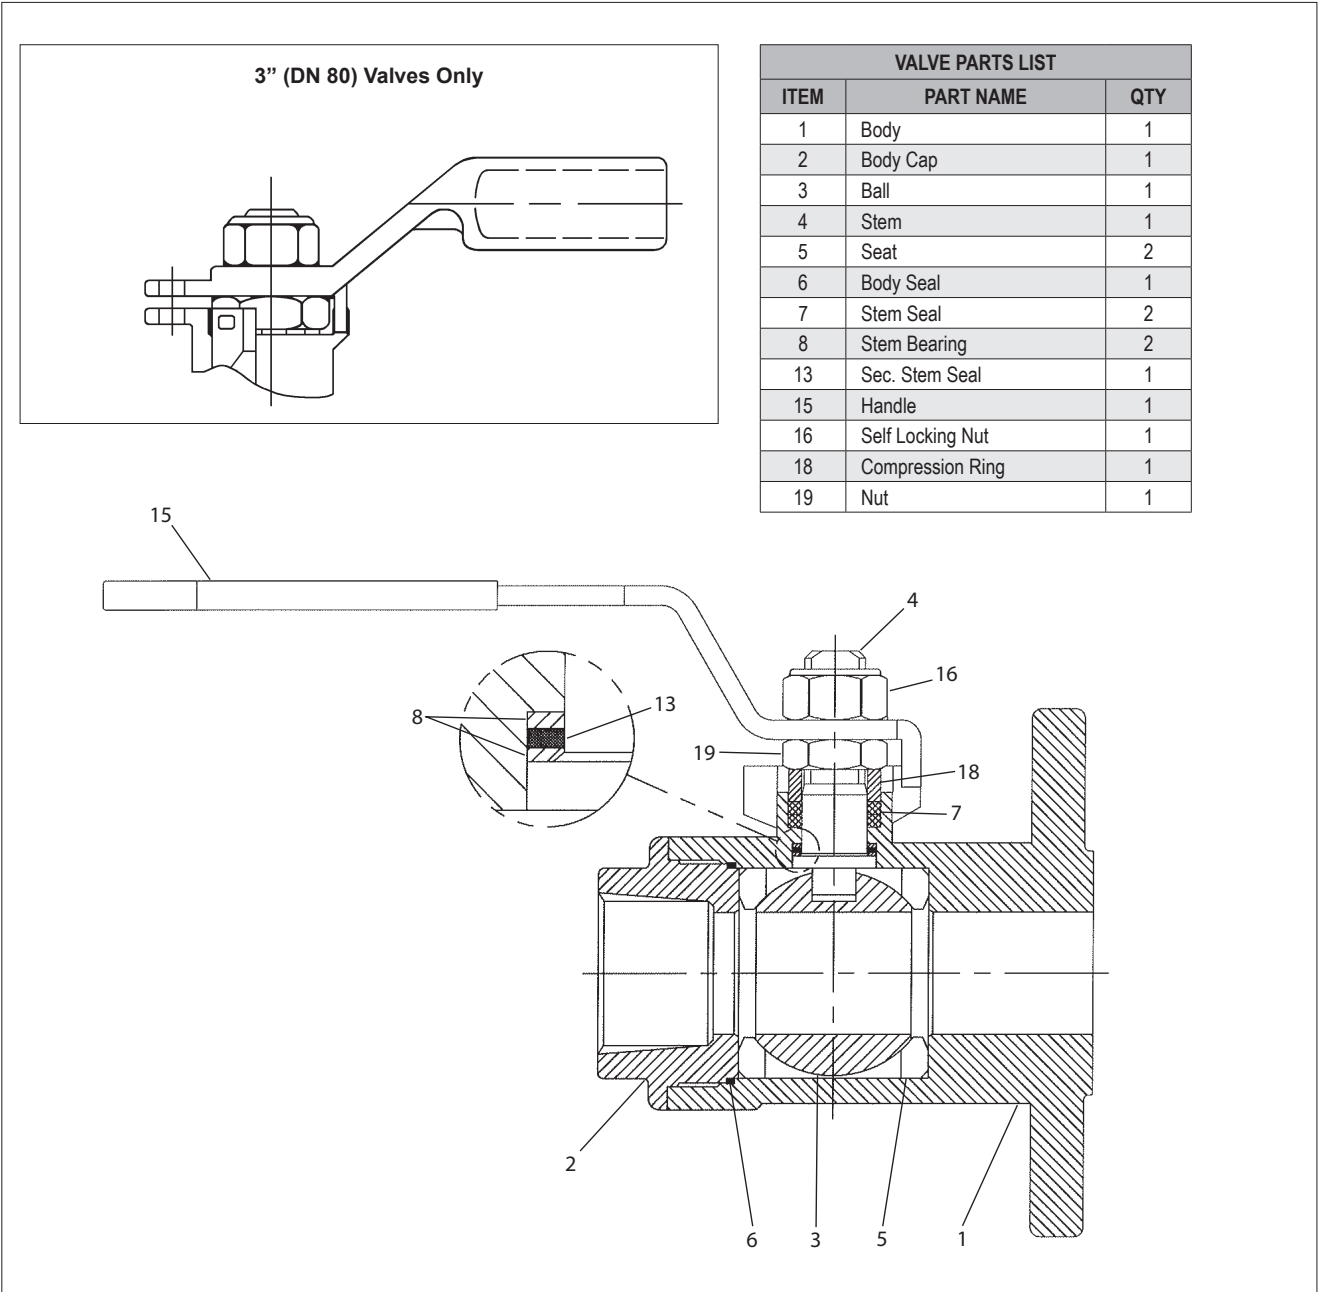

Figure 5
Good operating procedure requires periodic observation to ensure that the valve is functioning well. The frequency of observation will depend on the application. Routine maintenance consists of tightening the lower stem nut (16) 1/4 turn periodically to compensate for wear caused by the stem turning against the seal. Loosen the upper stem nut (16) on top of the handle (15) before tightening the lower stem nut. Retighten the upper stem nut after tightening the lower stem nut. (See **Figure 5**)
- c. From **Figure 5**, the ballooned part number, part name and quantity required.